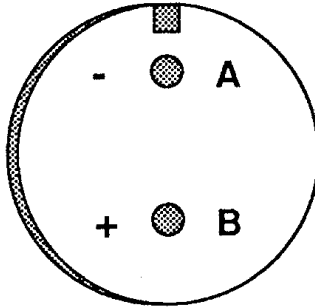

Figure 1. DAU 28 VDC connector.
b. Connect dc power supply to DAU **28VDC** connector; + to pin B and - to pin A (fig. 1).